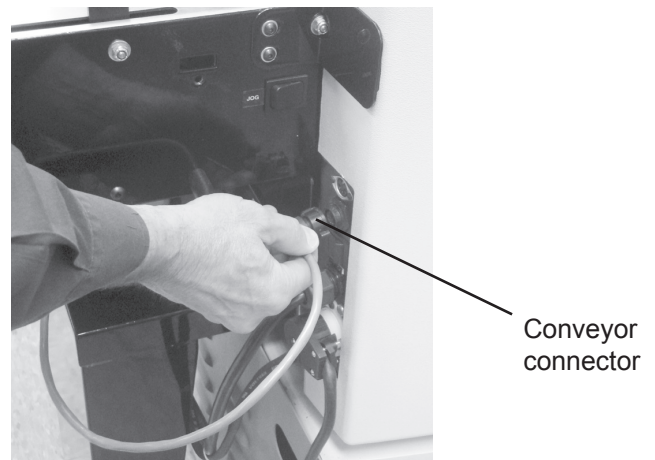

Fig. 6
4. Plug the output conveyor into the table receptacle on the input/output power assembly. (Fig. 6)